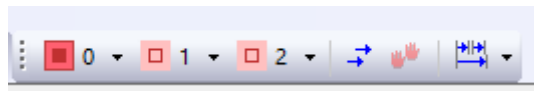

Figure 132 IAR EWARM Running Projects
- iii. Follow steps according to 5.3.5 Debug for Multiprocessing No. 3 to No. 7. As shown in Figure 132, it is according to the setting in multicore_setup.xml. The primary project is 0, the secondary project is 1, and the tertiary project is 2.